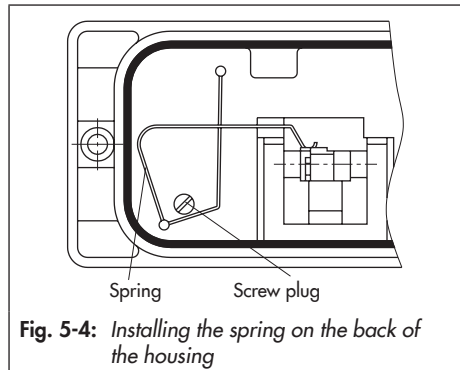

Fig. 5-4: *Installing the spring on the back of the housing*
- Remove screw plug on the back of the positioner (Fig. 5-4) and seal the side signal pressure output with the stopper included in the accessories.
- Mount the positioner so that the hole in the intermediate plate (15) covers the seal in the hole of the actuator yoke.
ly located in the bracket (11), fix the spring included in the accessories at the back of the positioner housing as illustrated in Fig. 5-4.
1. Place the lever with feeler roll (3) on the side of the lever (5) opposite to where the press nuts are located and secure it using the supplied screws (6) and washers.
2. Attach the spring contained in the accessories kit (order no. 1400-6660) to the back of the positioner housing (see Fig. 5-4).